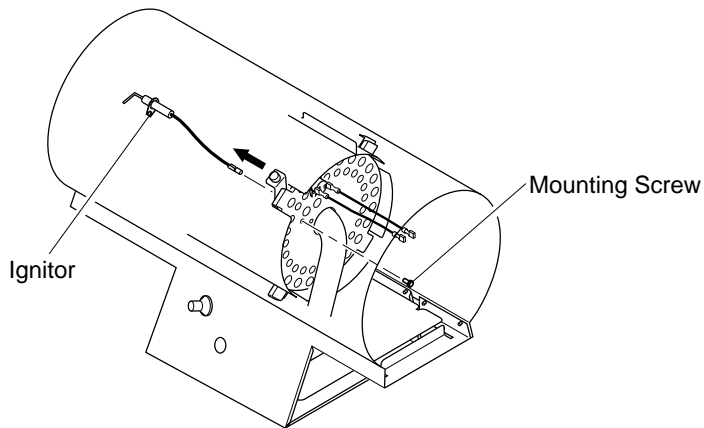

Figure 17 - Removing Ignitor Mounting Screw and Ignitor
3. Remove ignitor mounting screw from rear head using nut-driver or standard screwdriver (see Figure 17).